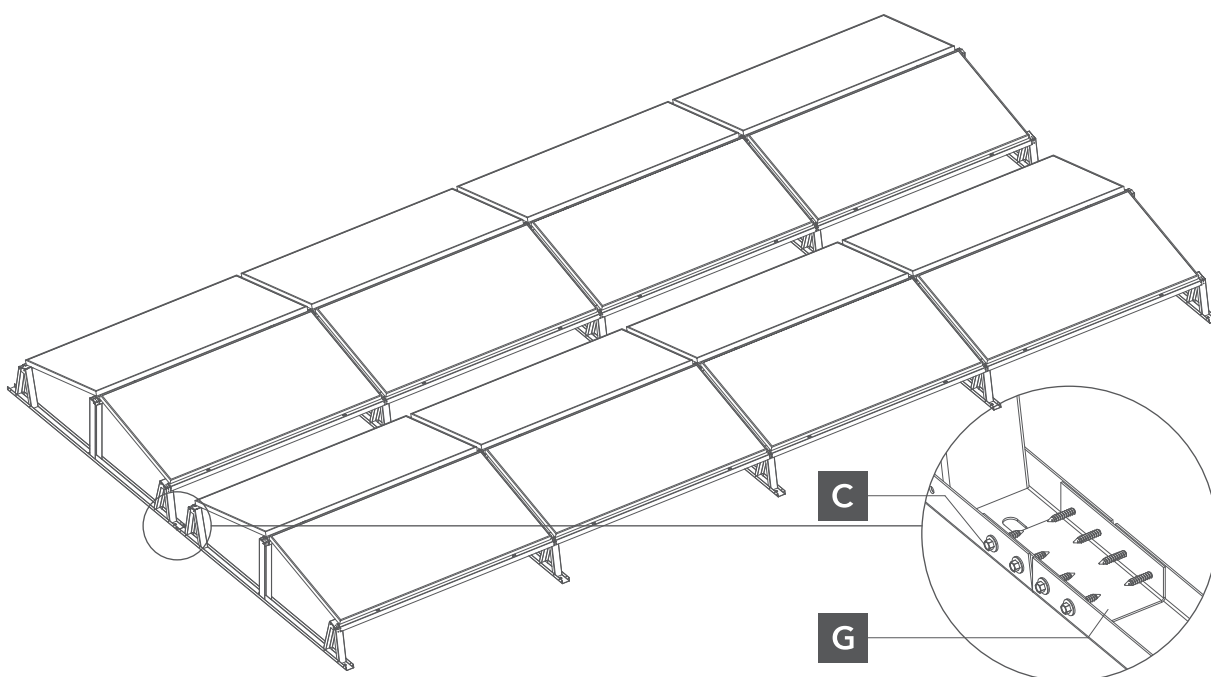

Fig.5. connection trójkqt6w assembly behind helpq !qnik
- 4** If b dq there are two or more rows of photovoltaic modules then the mounting triangles should be connected by means of connectors (Fig. 5).